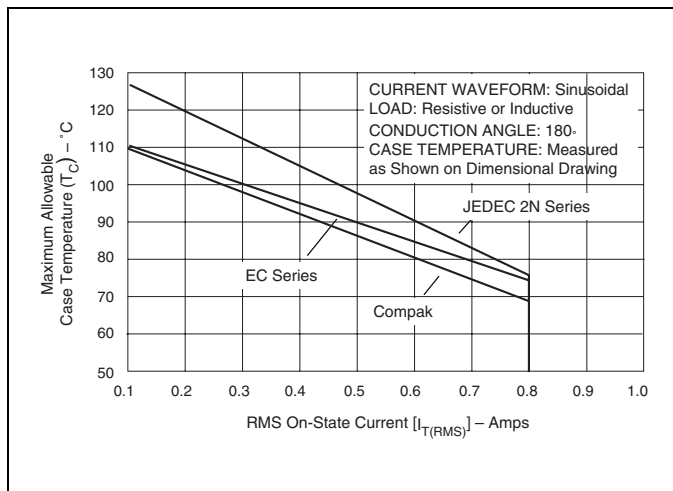
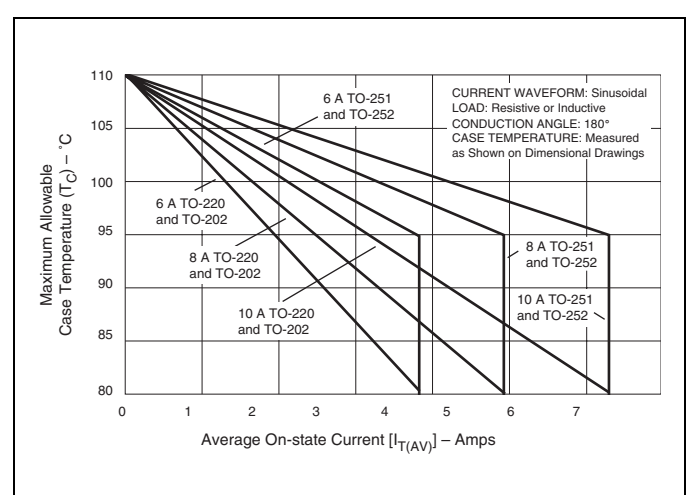

Figure E5.1 Maximum Allowable Case Temperature versus RMS On-state Current
Figure E5.9 Maximum Allowable Case Temperature versus Average On-state Current
- See Figure E5.1 through Figure E5.9 for current ratings at specified operating temperatures.
- See Figure E5.1 through Figure E5.9 for maximum allowable case temperature at maximum rated current.